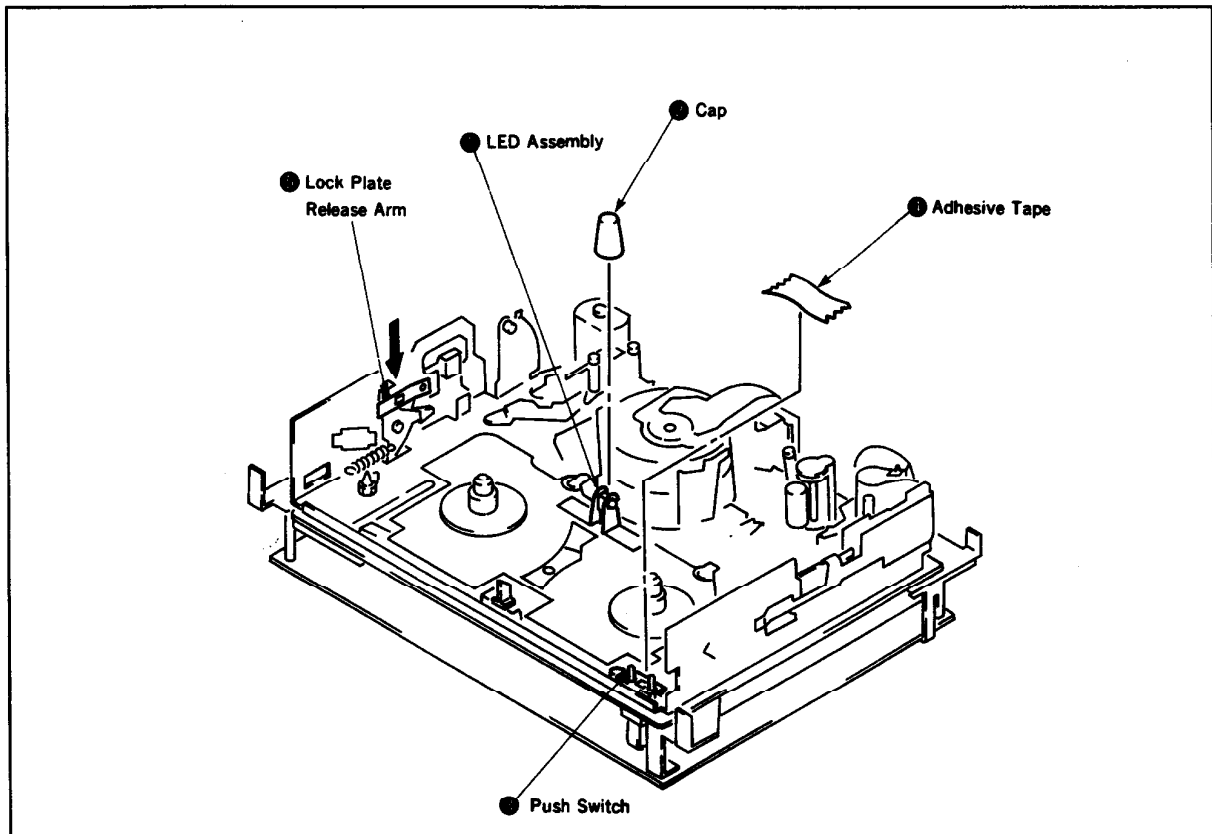

Fig. 3
1. Putting into Loading state (Fig. 3)